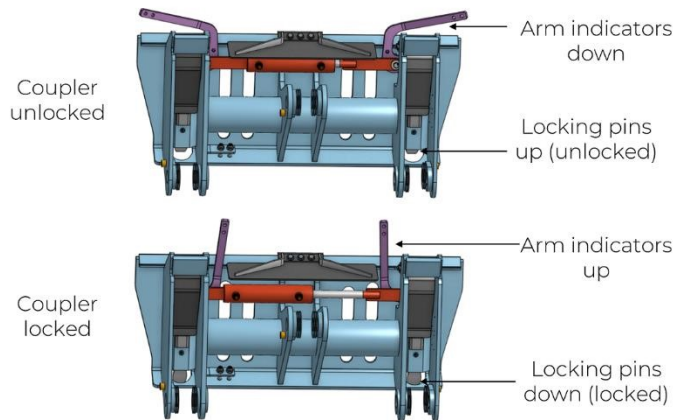

Figure 5: Indications that coupler is locked or unlocked.
4. **If operating the coupler in manual mode**, manually rotate the arm indicators to lock the coupler locking pins into the attachment pin lock holes, as shown in Figure 5 below.
5. **In both modes**, verify that the coupler is locked to the attachment as shown in Figure 5 below.